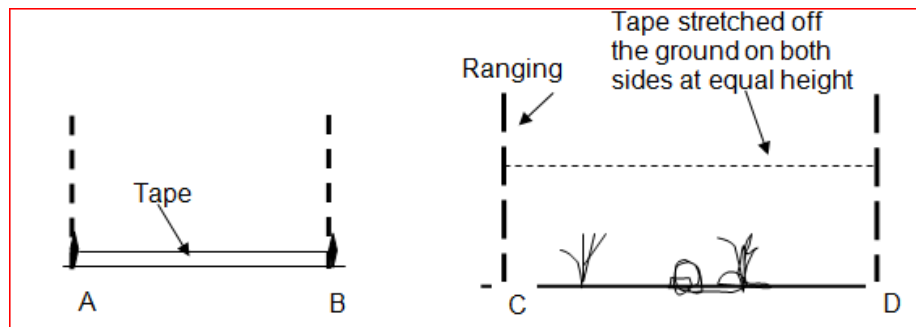

Figure 2.4 Measuring horizontal distance on gentle ground
- This is because on the gentle slope horizontal distance equal to surface distance (Figure 2.4)